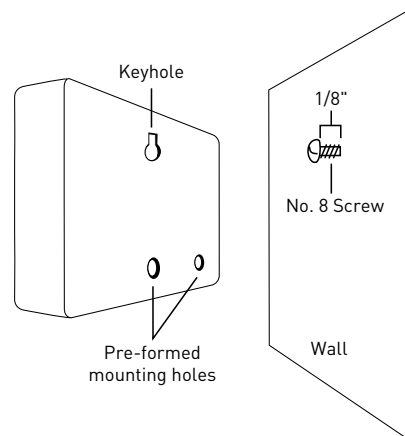

Figure 2: Hang timer on screw using keyhole
- Slip the timer over protruding screw (using keyhole slot in back of timer). *See figure 2*
- Drive a No. 8 screw through one of the two pre-formed holes located in lower back cabinet. *See figure 2*